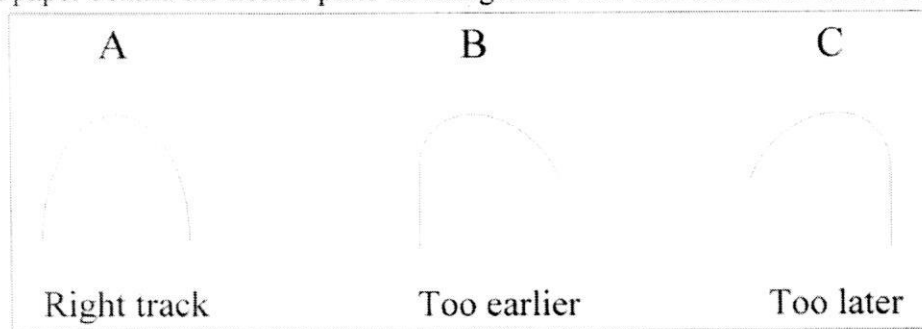

Fig.4
4.4 Position setting of the eccentric cam (654-1004) of needle transporting (Fig.4)
The transporting track is as shown in Fig.4. The track A is right, the track B is too earlier and the track C is too later. The needle transport can be adjusted by change the angle position of eccentric cam(654-1004).